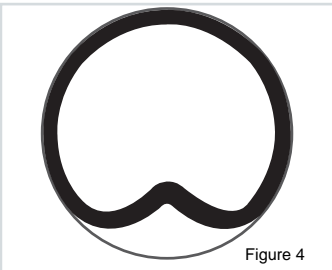

Figure 4
4. Each piece of SpiralFlex should be slightly bent inward (Figure 4) on the side **opposite** the taped seam to allow the compressed tube to fit inside the duct.